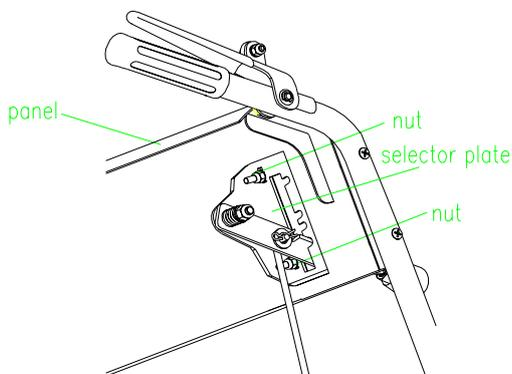

FIG 21
**6.5.4** Loosen the flange nuts that secure the selector plate to the control panel. (FIG 21)